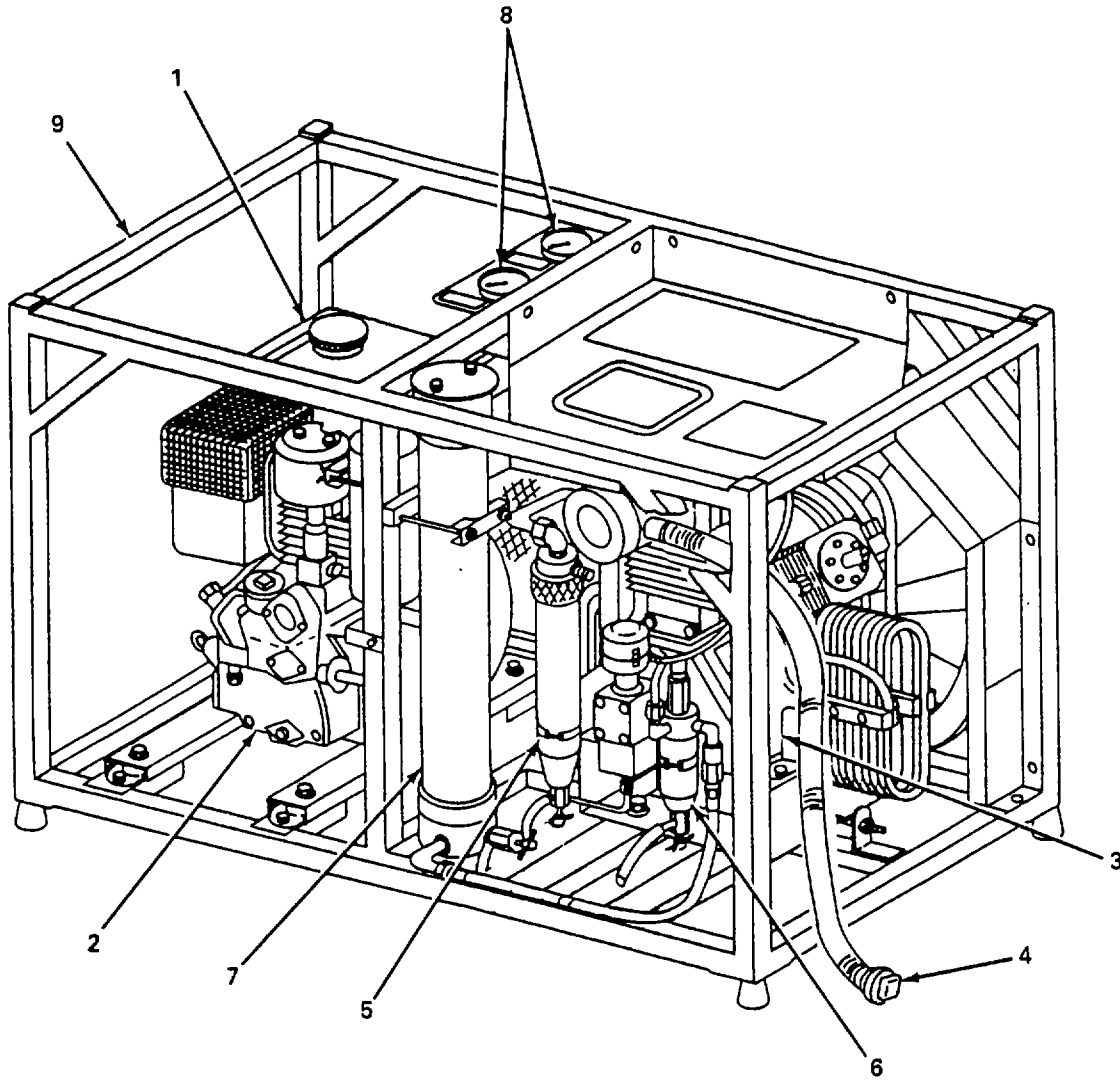

Figure 1-2. Air Compressor Major Components.
**1-8. Location and Description of Major Components.** (figure 1-2)
**ENGINE FUEL TANK (1).** The engine fuel tank has a capacity of approximately 4 quarts (3.7 liters). This is sufficient fuel for about 3 1/2 hours of operation at full load.
**DIESEL ENGINE (2).** Supplies power to drive the air compressor.
**AIR COMPRESSOR (3).** Takes atmospheric air and compresses it for use in SCUBA tanks.
**COMPRESSOR PREFILTER AND INLET HOSE (4).** The compressor prefilter and air inlet hose provides a means of separating the air compressor from the point from which the air being compressed is actually taken. This insures that the cleanest possible air is being compressed.
**COMPRESSOR INTERSTAGE SEPARATOR (5).** The compressor interstage separator is located in the compressed air path downstream of the second to third stage intercooler. The oil and water vapor condensed